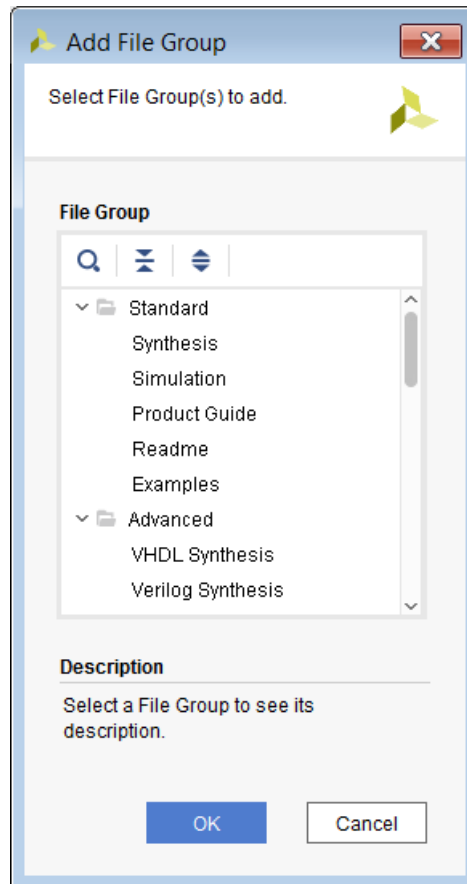

Figure 4-12: Add File Group
2. Select from the file group list, which includes the group description, as shown in Figure 4-12.